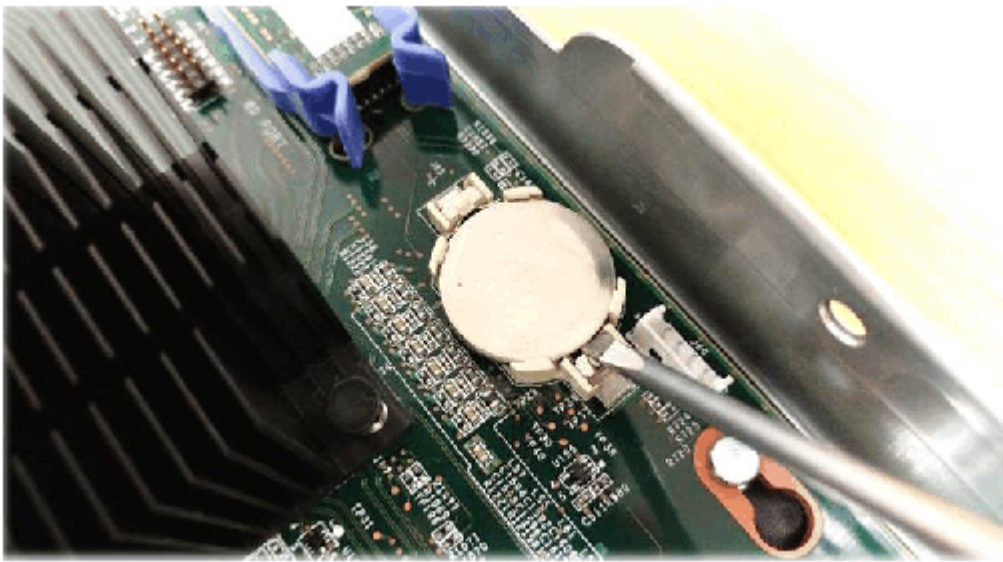

Figure 37. Replacing a CMOS battery
4. Use a flat head screwdriver to gently pop the CMOS battery out of the battery holder, as shown in Figure 37 on page 74. However, do not remove or loosen any screws in the node canister.